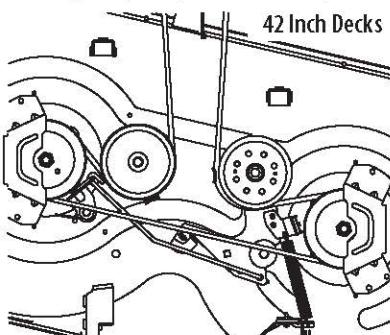
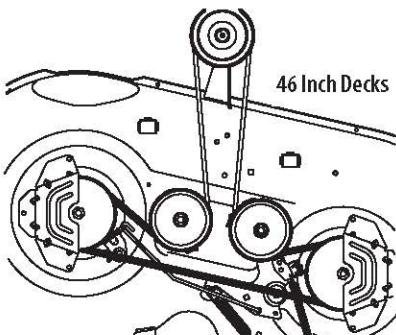
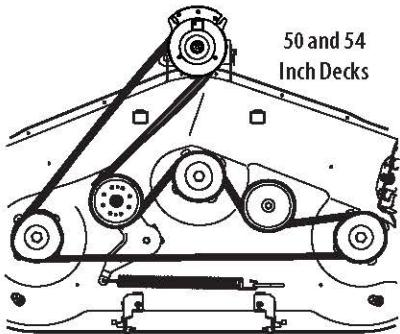

Figure 52
Figure 53
Figure 54
- Route the new belt as shown in the applicable figure below. See Figure 52 (42 inch decks) and page 34 for Figure 53 (46 inch decks) and Figure 54 (50 and 54 inch decks).